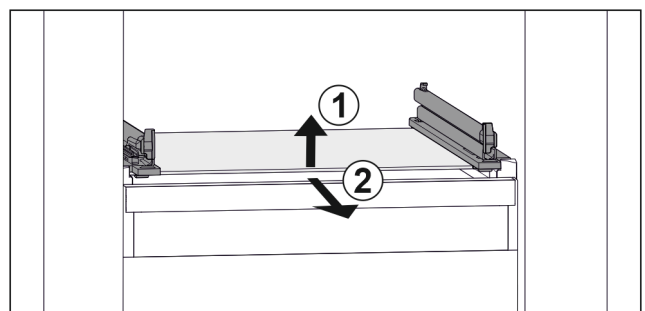

Fig. 107 Example illustration of glass shelf
- ▶ Lift glass shelf at the front. Fig. 107 (1)
- ▶ Take out glass shelf to the front. Fig. 107 (2)